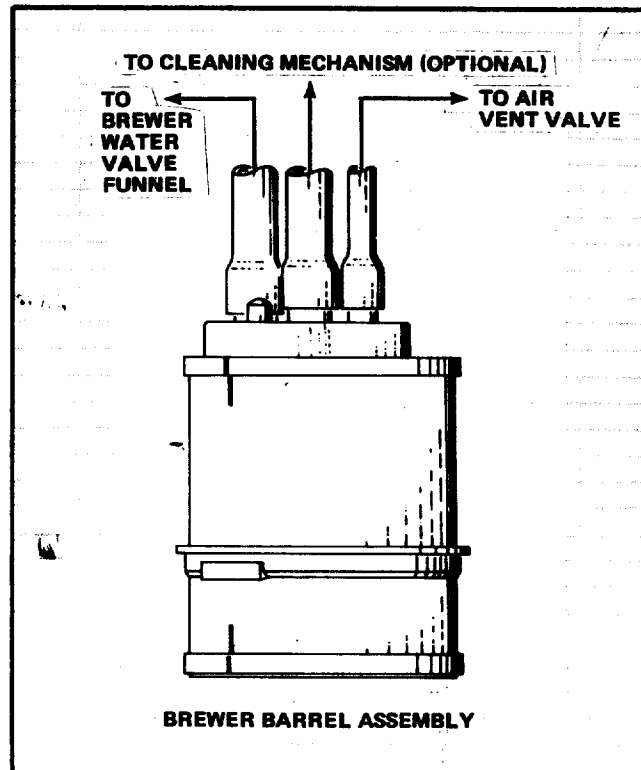

FIGURE 12
27. Install the tubing from the Brewer Water Valve Funnel, Cleaning Mechanism, and Air Vent Valve to the Brewer Barrel Assembly. See Figure 12.